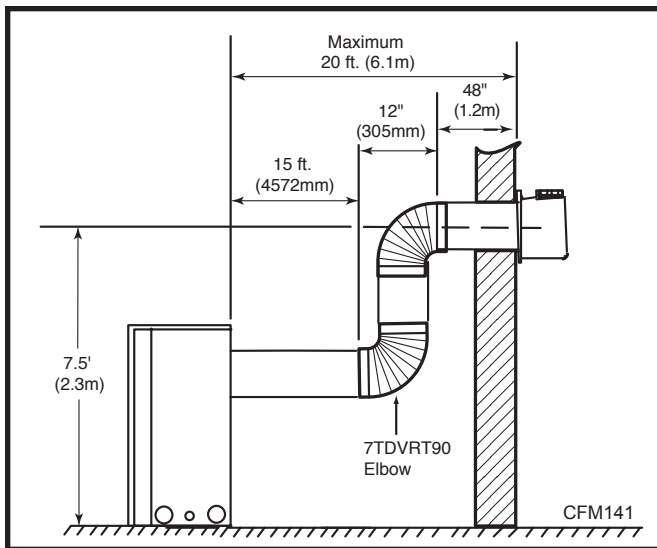
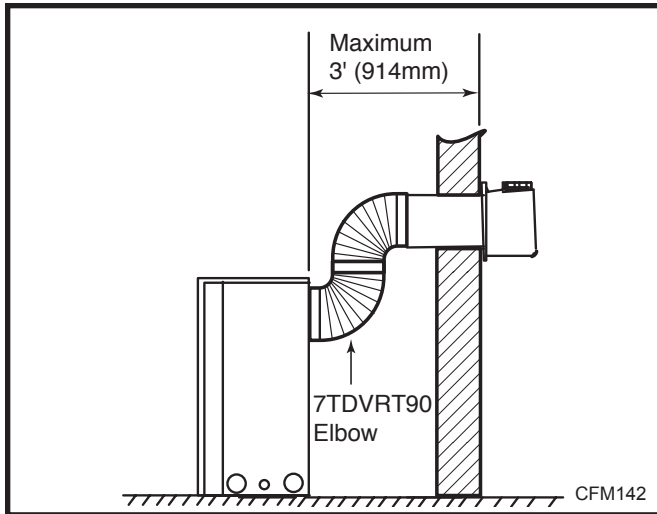
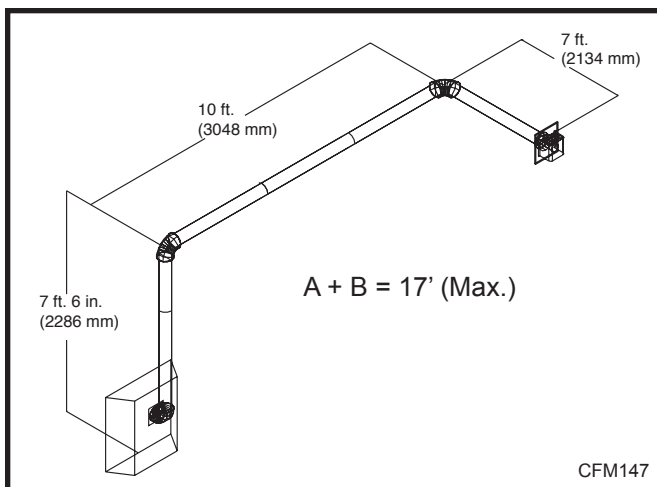

Fig. 18 Maximum number of 90° elbows is three (3).
Fig. 19 Maximum horizontal vent run.
Fig. 20 Maximum vent run with elbows.
- The maximum horizontal vent run is 20 ft. (6.1 m) when the vertical vent rise is 7½ ft. (2.3 m). (Fig. 18)
- The maximum number of 90° elbows per side wall installation is three (3).
- If a 90° elbow is used in the horizontal vent run (level height maintained) the maximum horizontal vent length is reduced by 36" (914 mm). (Fig. 19) This does not apply if the 90° elbows are used to increase or redirect a vertical rise. (Fig. 20)
Example: According to the chart the maximum horizontal vent length in a system with a 7.5' (2.3 m) vertical rise is 20' (6 m) and if a 90° elbow is required in the horizontal vent it must be reduced to 17' (5.2 m). In Figure 19 Dimension A plus B must not be greater than 17' (5.2 m).